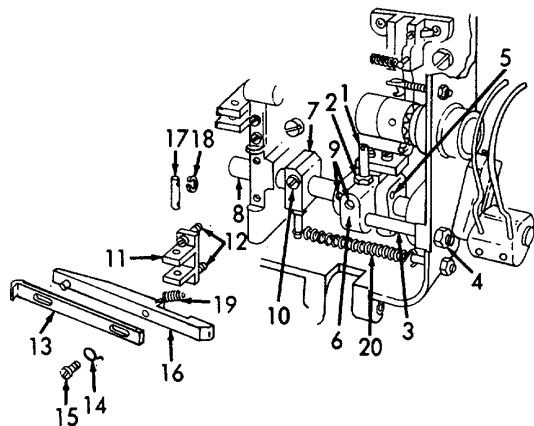

Figure 6-161. Stopping Mechanism, Installation.
g. Installation (Refer to Figures 6-161 and 6-162).
- (1) Refer to Figure 6-161. Install stud (1) and nut (2).
- (2) Install shaft (3) and nut (4).
- (3) Install felt washer (5), stop shaft guide block (6), stop shaft block (7).
- (4) Install shaft (8).
- (5) Tighten setscrews (9) and (10).
- (6) Install bracket (11) and two screws (12).
- (7) Align index marks while installing motion kick-off tripper (13) to holder (16). Install clip (14) and screw (15).
- (8) Install stop tripper holder (16), pin (17), and C-washer (18).
- (9) Install spring (19) and spring (20).